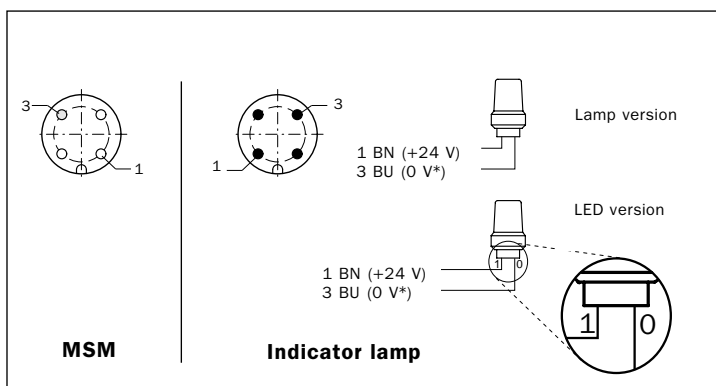

Fig. 7: Connection diagram, muting indicator lamp: left MSM, right indicator lamp - \*) Refer to notes
- When connecting the LED indicator lamp pay attention to the polarity (see Fig. 7).